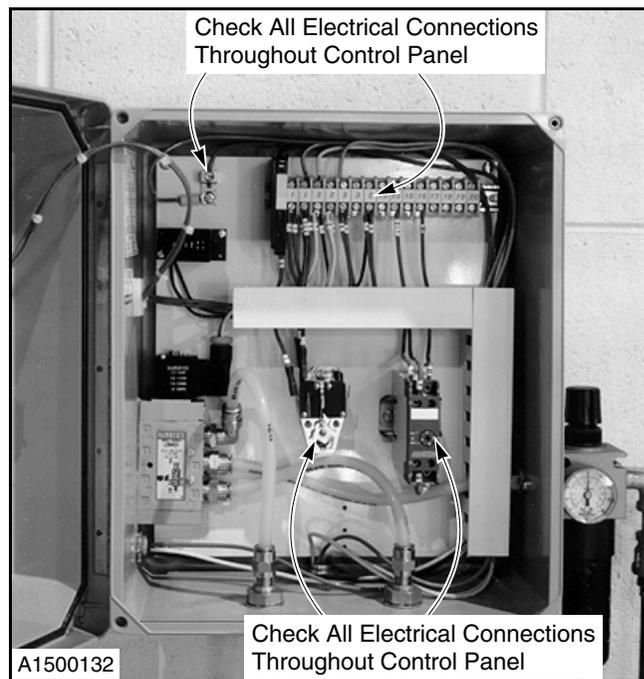

Figure 17
2. Inspect the internal wiring in the control box. Connections must be tight. (See Figure 17.)